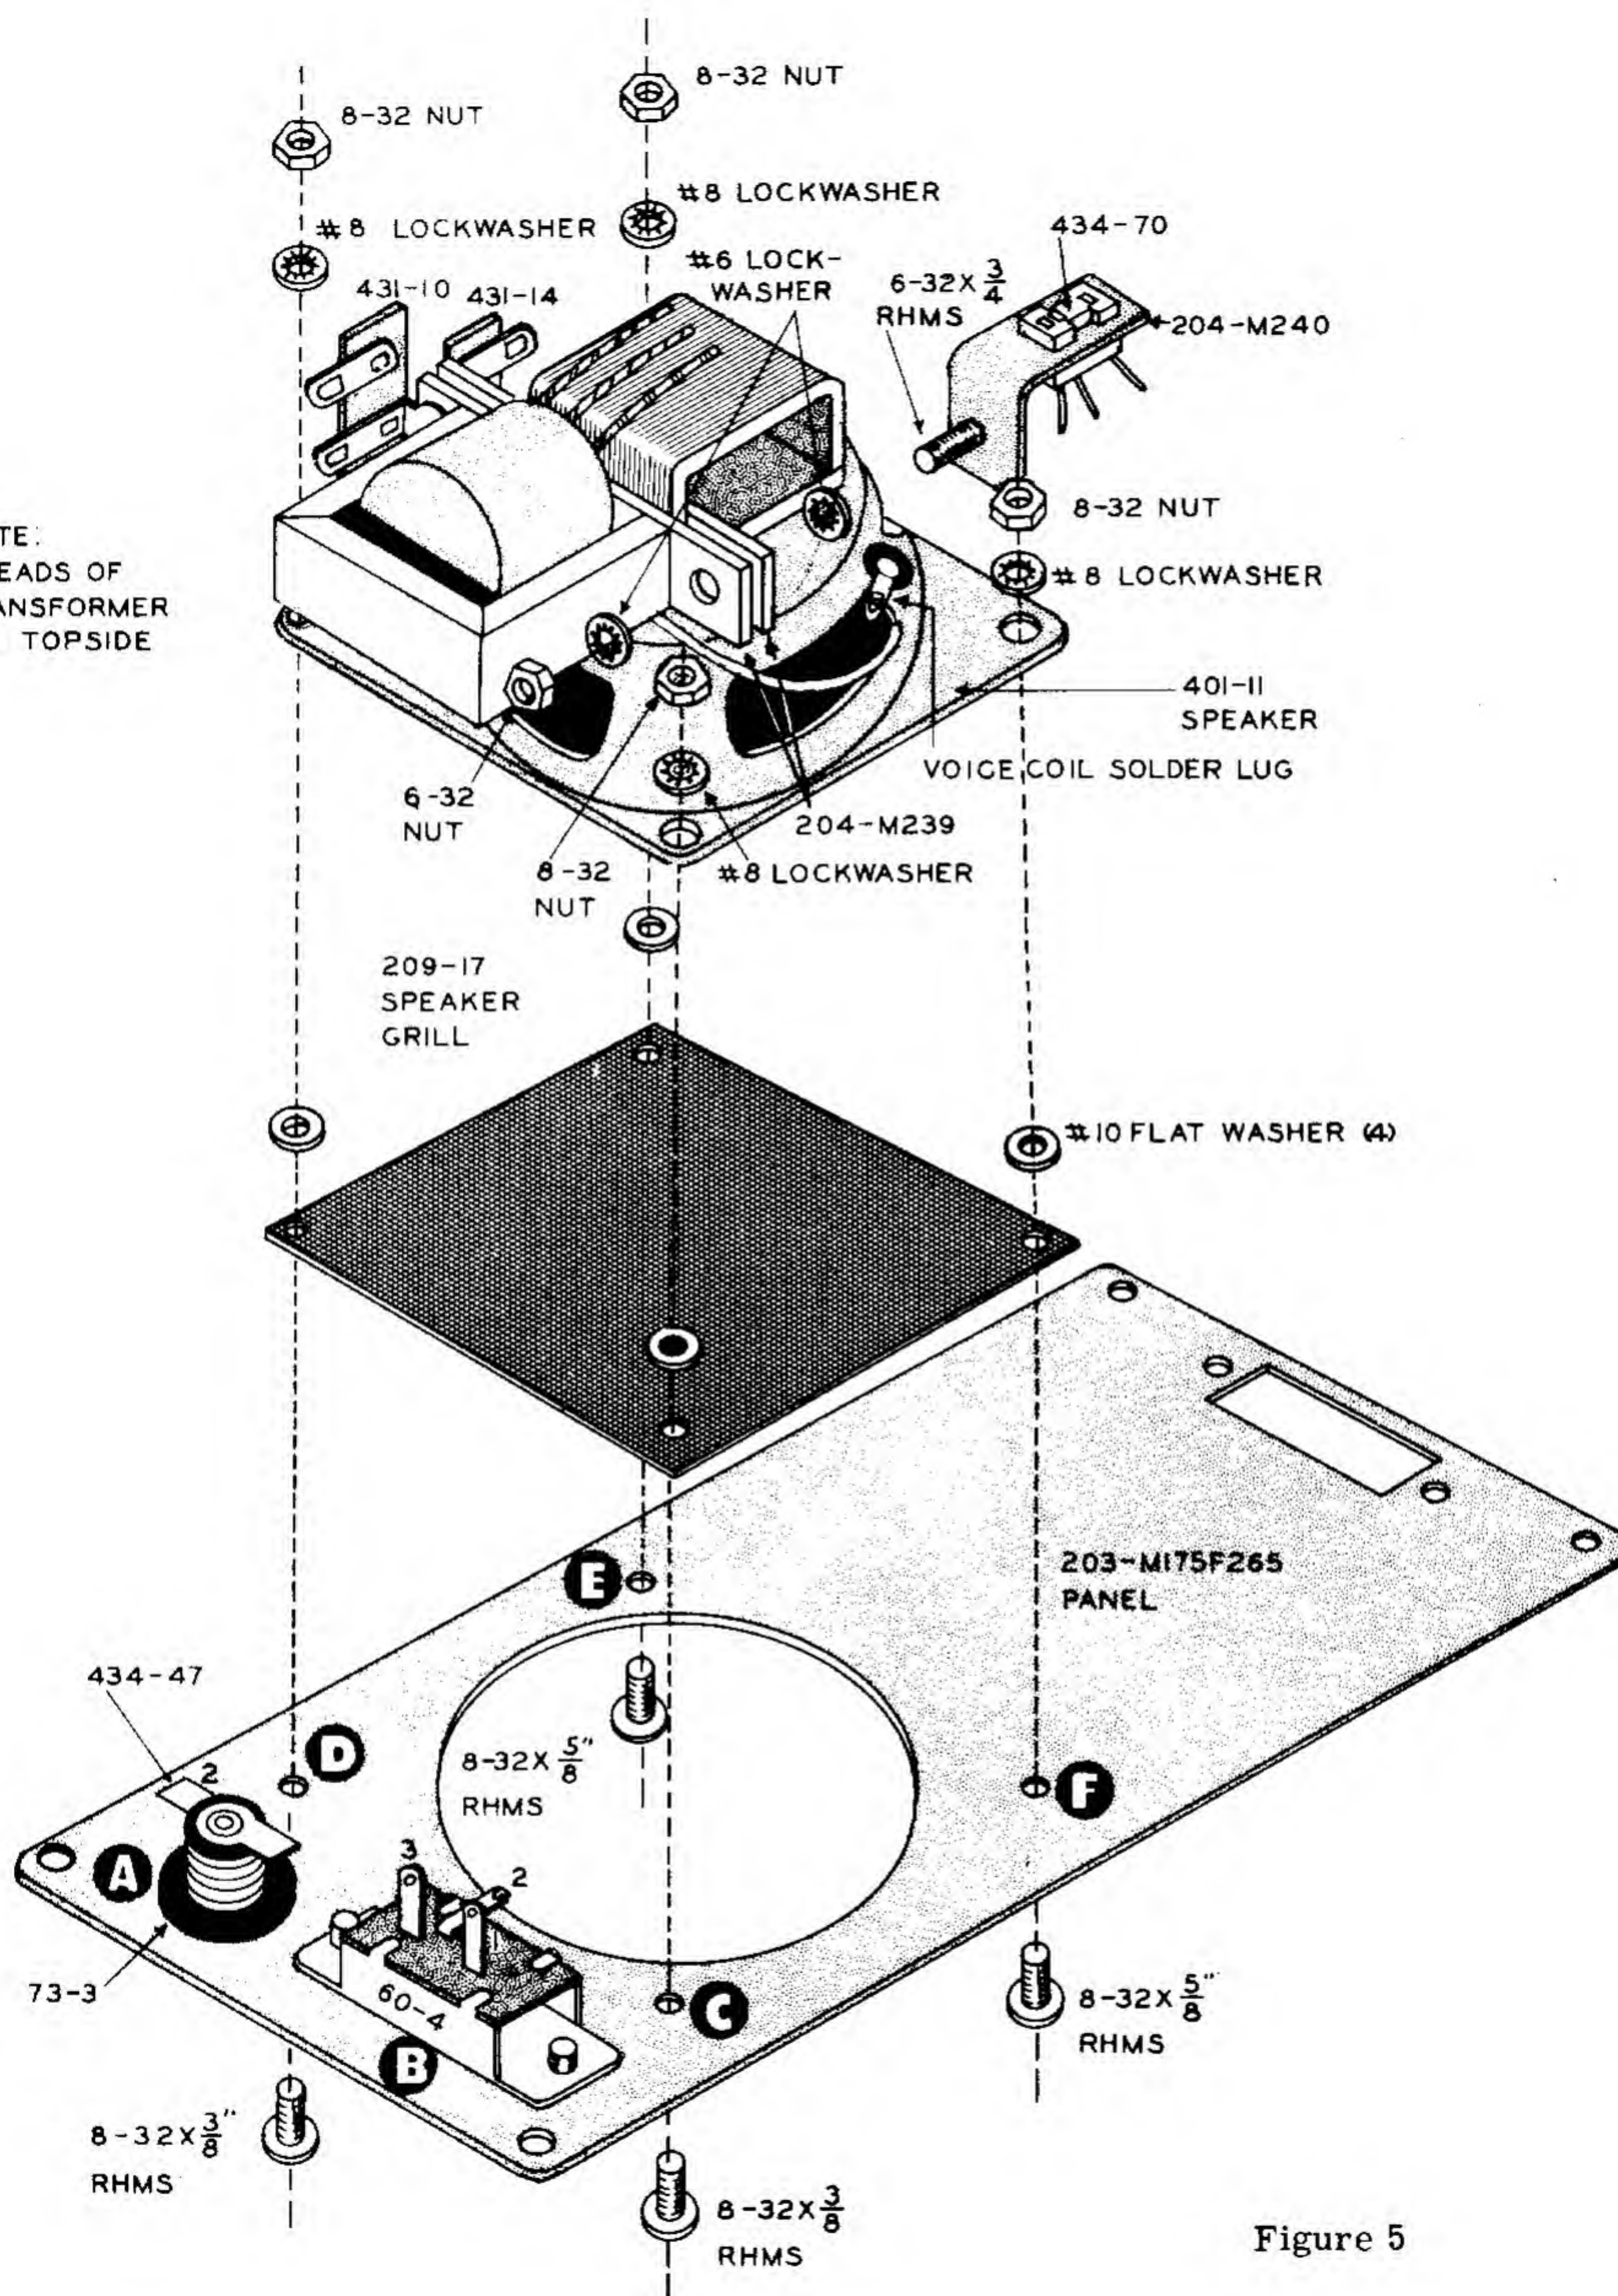

Figure 5
- () Refer to Figure 5 on Page 8 and with the yellow lead on one side of the speaker and the black lead on the other, insert the preceding assembly through the speaker frame on the side away from the voice coil solder lugs. Insert the 6-32 x 3/4" screw (which mounts the transistor socket assembly) through a #6 lockwasher, through the two bracket ends, the transformer foot, a #6 lockwasher, and secure with a 6-32 nut. Do not tighten screws until the center of the transformer is aligned with the center of the speaker. Then, use a thin screwdriver to do the tightening while holding the nut (to avoid damaging the transistor socket).
- () Bend the center lug of the SPDT switch down flat and toward the large speaker hole. The other two lugs should be bent outward slightly to clear the output transformer which is mounted in the following steps. Refer to Figure 5.
- () Place the 2 1/2" speaker grill over the large hole in the panel on the panel rear side (with the fuzzy side against the panel). See Figure 5. Insert an 8-32 x 3/8" RHMS through hole C in the panel (the hole next to the switch), through the grill, a flat washer, the speaker frame, a #8 lockwasher and secure with an 8-32 nut. Do not tighten until all the screws are in and the speaker is aligned straight and even with the panel.